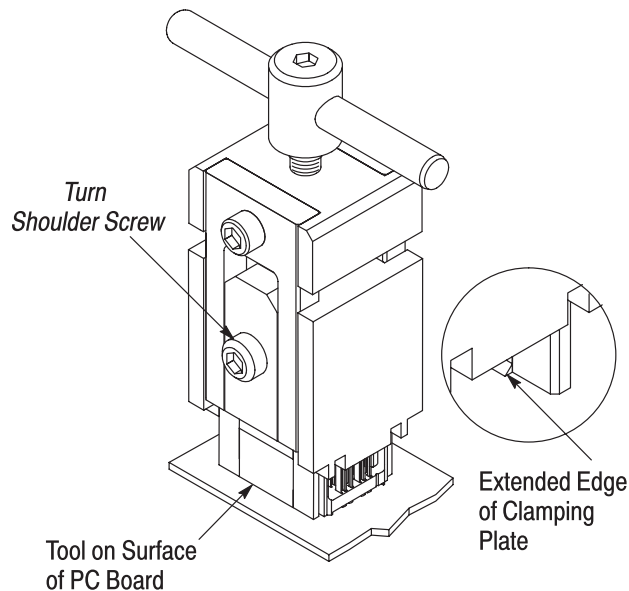

Figure 3
3. Lower the tooling onto the surface of the pc board. Refer to Figure 3.
*Be sure that the extended edges of the clamping plates (shown in Figure 3) sink **into or under** the connector while tightening the shoulder screw.*